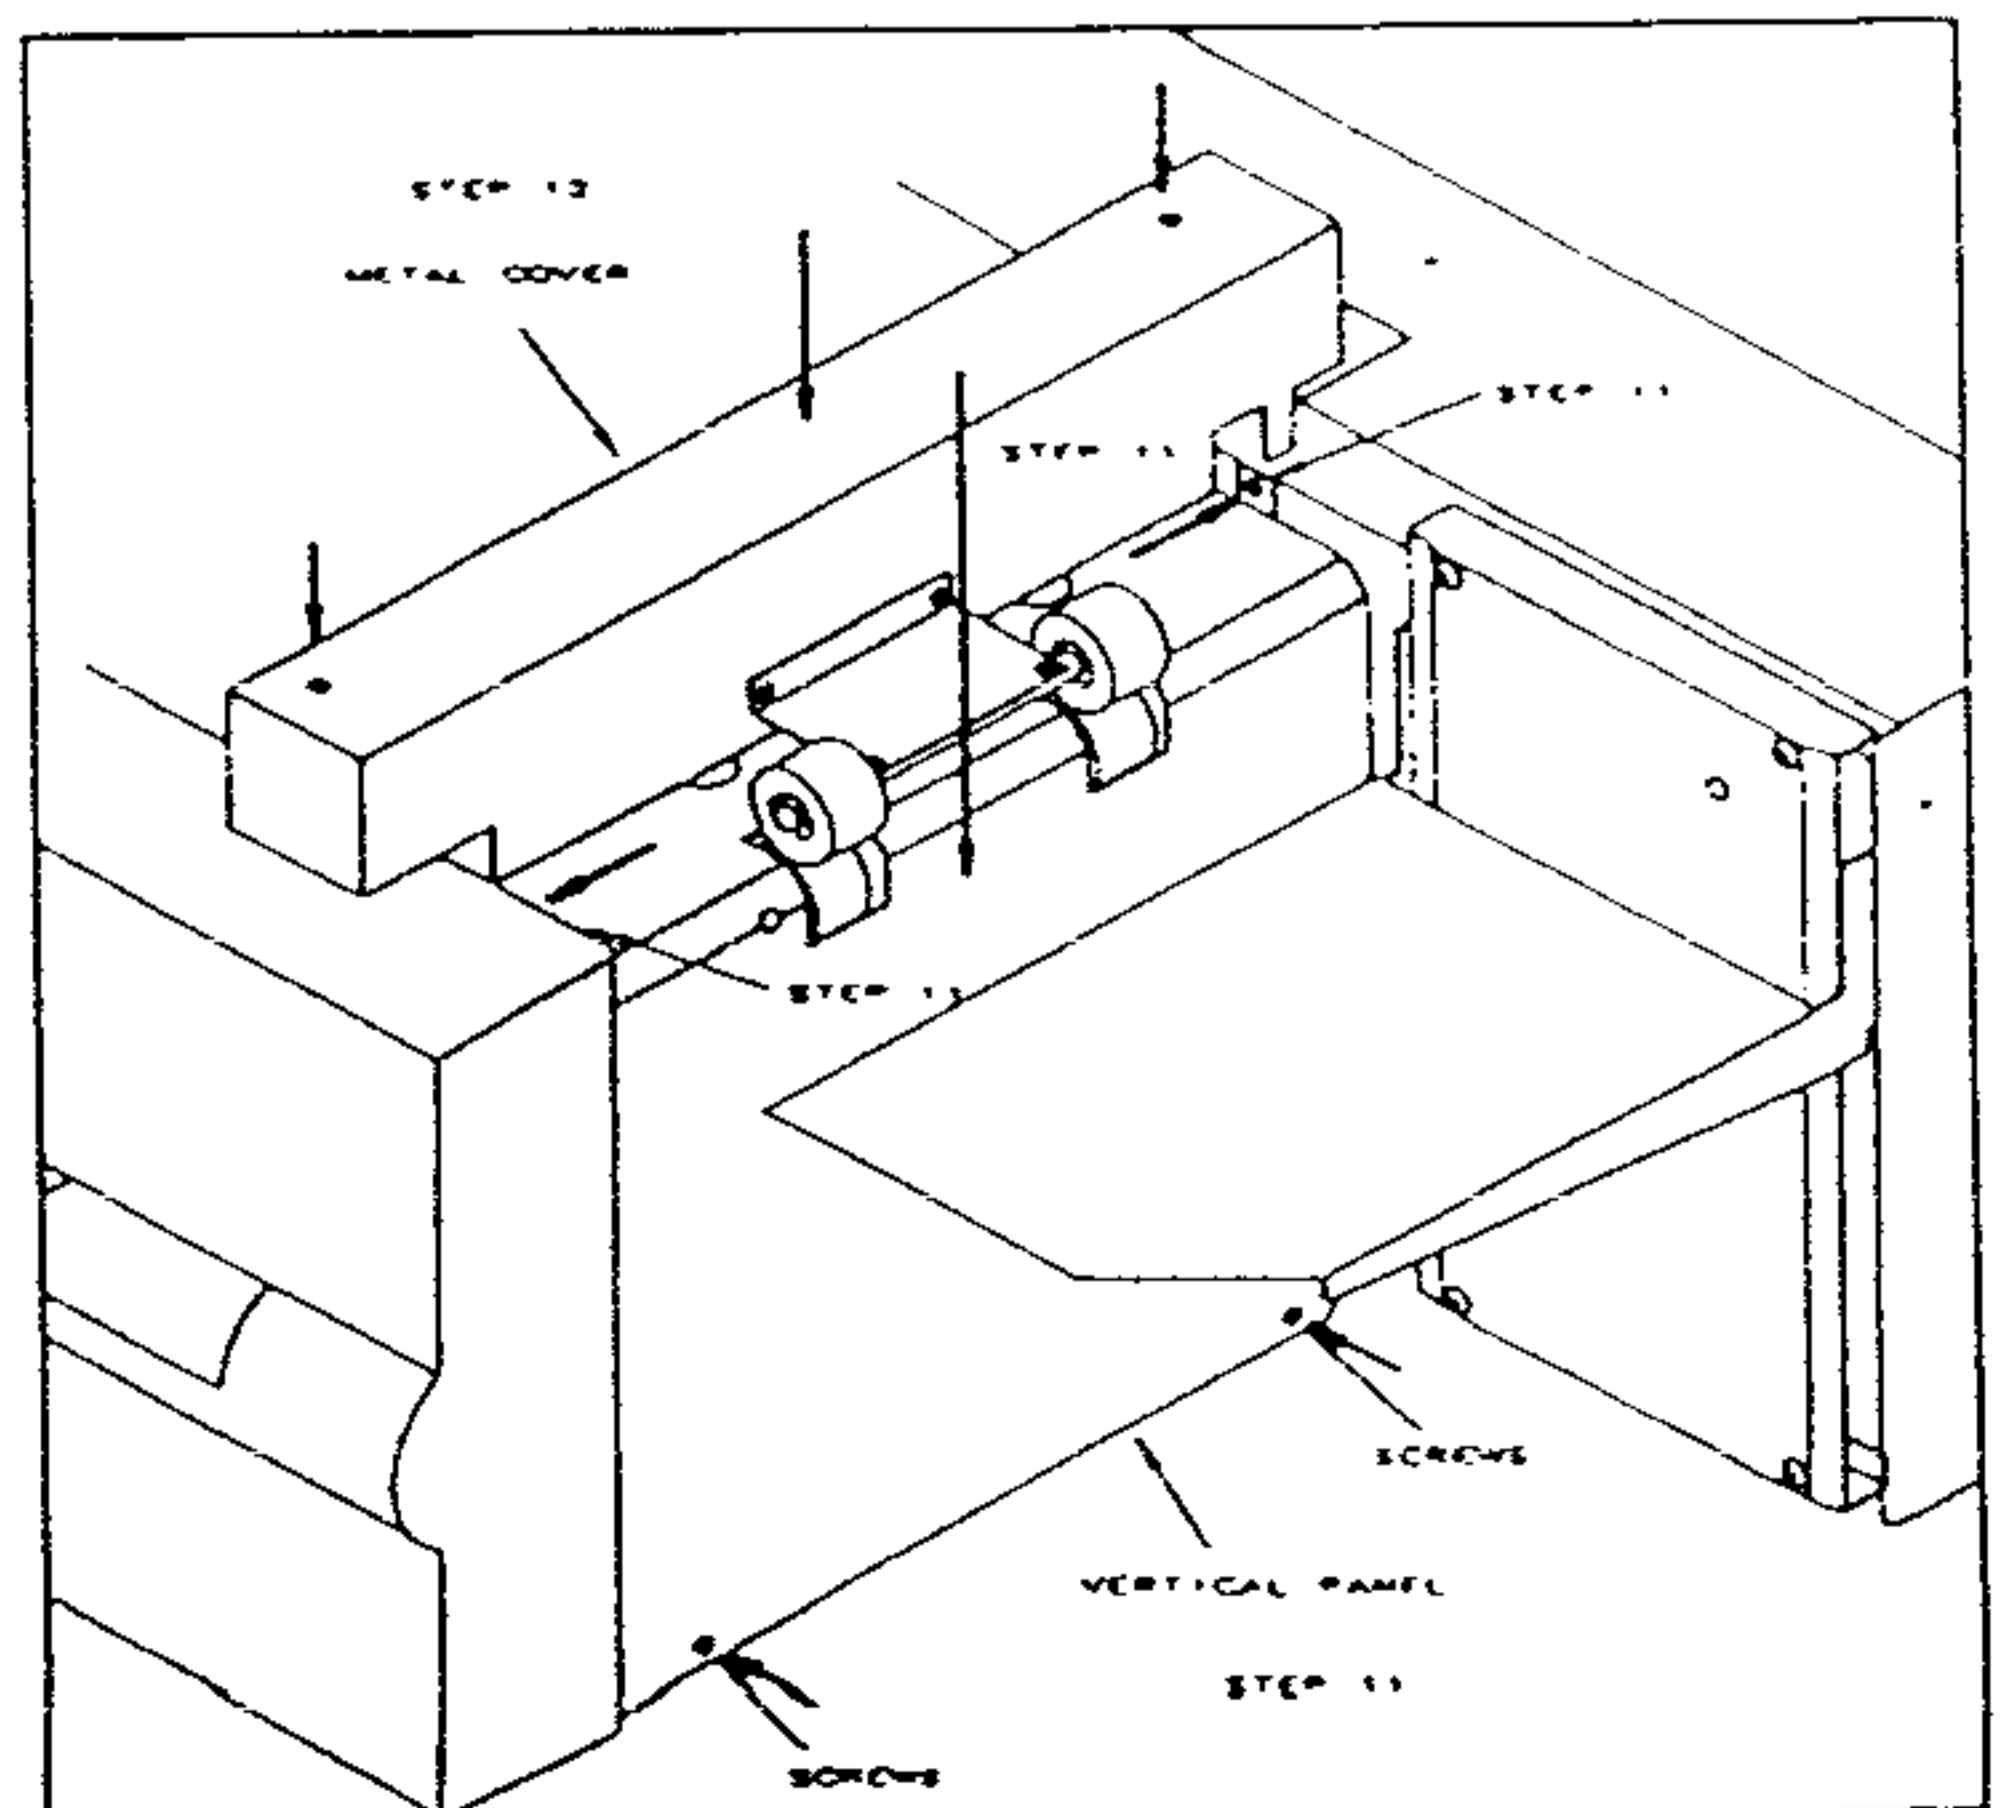

Figure 24
11. Lower the Output Stacker vertical panel into position so that the horizontal plane of it is slightly below the exit rollers. Secure it by replacing the screws that fasten it to each side frame and the two (2) screws located at the bottom of the vertical panel. (See Figure 24)
12. Place the metal cover with the upper two (2) exit rollers over the punch die, and secure with two (2) screws. (See Figure 24)